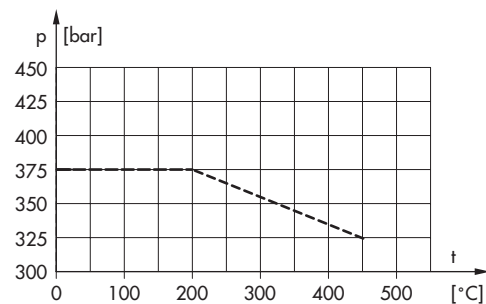

Fig. 4: Pressure-temperature diagram for material 1.4571 (RA4)
- **Insulating section** · For temperatures from -10 to +450 °C (see Fig. 4 for pressures and temperatures)